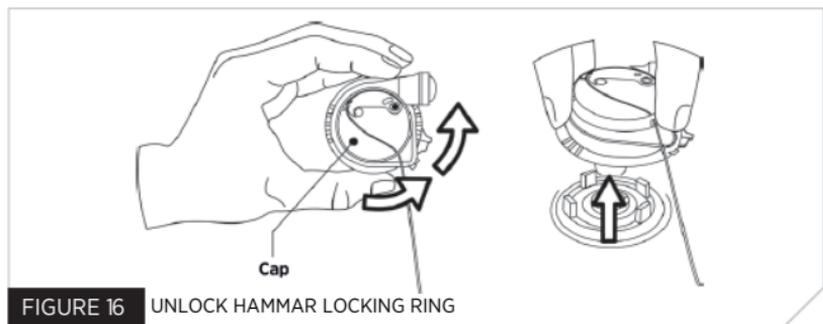

FIGURE 16 UNLOCK HAMMAR LOCKING RING
4. Turn the black locking ring counterclockwise and lift off the yellow cap. (Fig. 16).